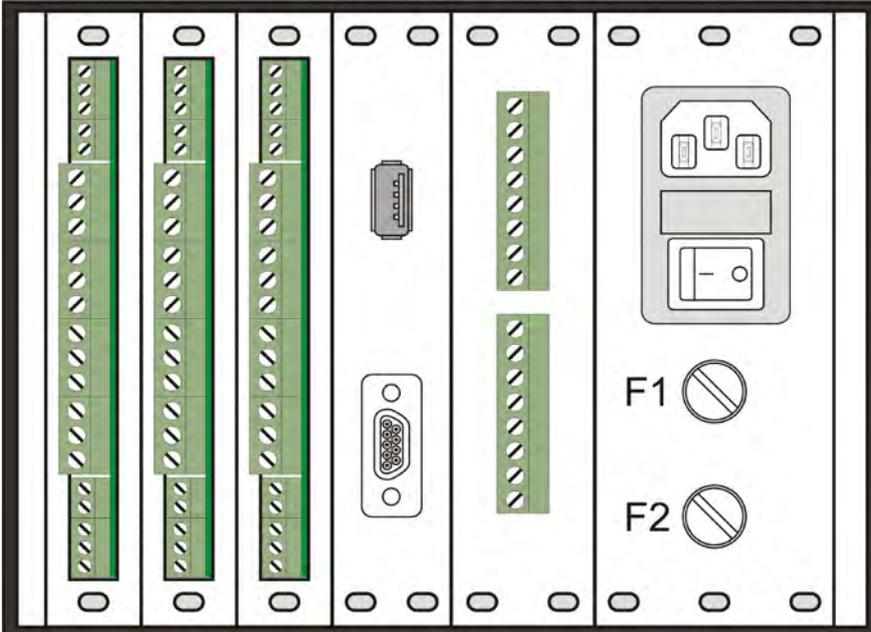

Figure 2.1: 5000 Unit Rear Terminals – 6 channel chassis.
2.1 User Connections (see figure 2.1)